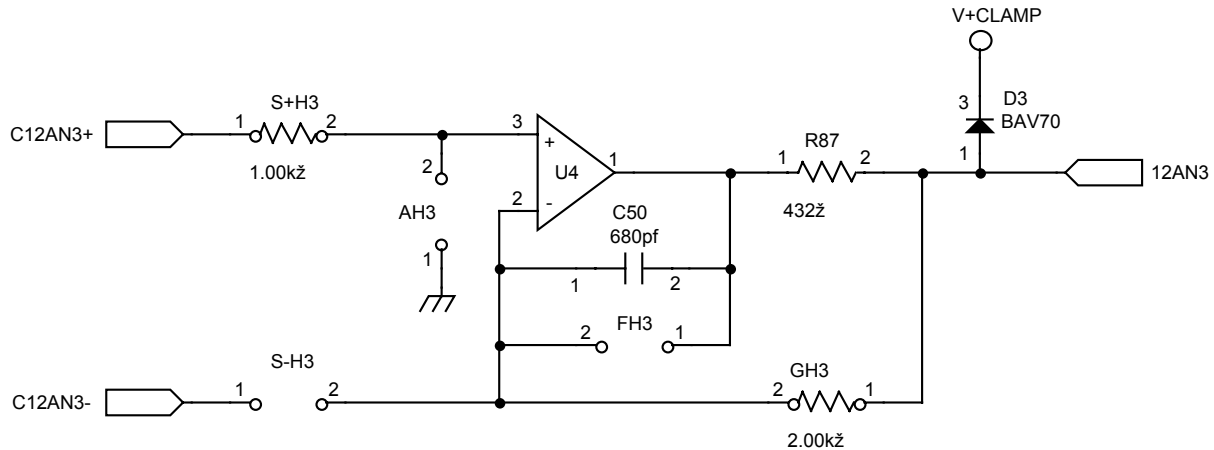

Figure 3. Differential amplifier input conditioning circuit for 12-bit A/D inputs. The component labels refer to channel C12AN3 on the schematic.
In many applications, the signal of interest is available as the difference between two related voltages. For example, the output of a bridge-type strain gauge, pressure sensor, or catalytic bead gas sensor is the difference between the midpoint voltages on the two legs of the bridge. For these applications, a differential amplifier (sometimes called a "diff-amp") like the one shown in Figure 3 works well.
At first glance there are many similarities between the differential amplifier in Figure 3 and the single-ended amplifier in Figure 2. In fact, if we connect the signal labeled C12AN3- to ground, the circuits are nearly identical:
- the resistor GH3 in Figure 3 provides negative voltage feedback just as R78 does in Figure 2;
- the attenuation resistor socket AH3 in Figure 3 behaves the same as the corresponding socket AH4 in Figure 2, and each socket can optionally accommodate a filter capacitor to lowpass filter the input signal;
- the feedback capacitor C50 in Figure 3 provides the same stability enhancement as C52 in Figure 2; and,
- the series output resistor R87 in Figure 3 provides current limiting in overvoltage conditions just like R79 in Figure 2.
In other words, by grounding the negative input at C12AN3- and interpreting resistor socket S-H3 as the gain-setting resistor, we can make the amplifier in Figure 3 behave identically to the amplifier in Figure 2. Using this approach and consulting the sections presented above, we then know how to buffer, amplify, attenuate or lowpass filter a single-ended input using the differential amplifier.
The differential amplifier offers more capabilities than the single-ended amplifier. Figure 4 shows the circuit of Figure 3 interfaced to a standard bridge-configured sensor. In this example we assume that R2 is the active sensor element, sensing a physical parameter such as pressure, strain, combustible gas concentration, etc. The bridge is driven (excited) by a positive reference voltage such as +5V_{quiet}. In the quiescent state in which the sensor is not detecting a signal, the
We can also use the differential amplifier as shown in Figure 9 to acquire and convert a 0-20 mA or 4-20 mA signal; compare this configuration with Figures 3 and 8. The acceptable common mode range is not as wide as with the instrumentation amplifier circuits, but otherwise the performance is quite good.